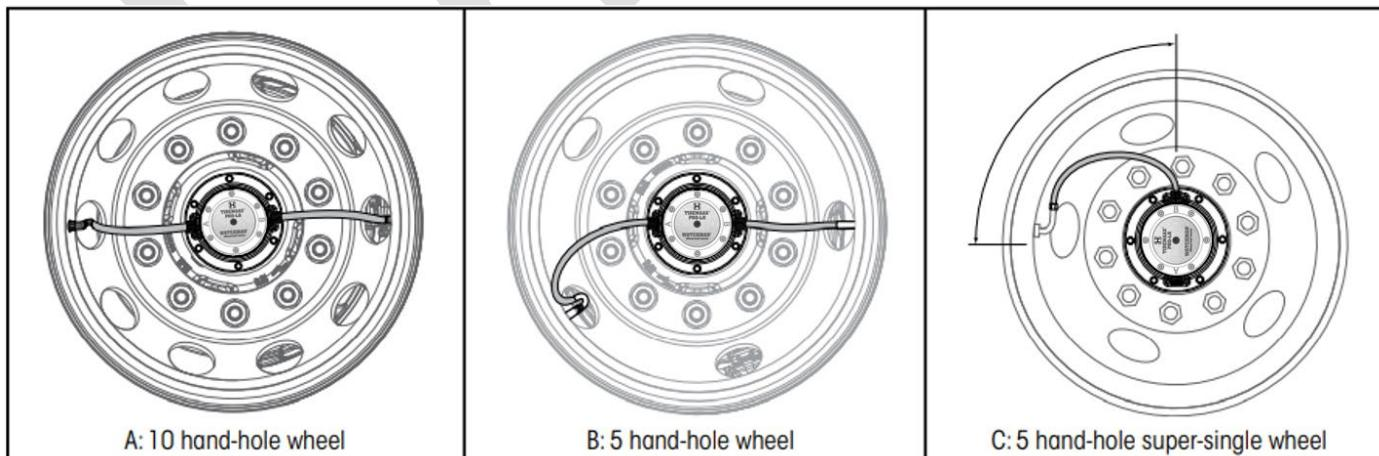

Figure 5: Properly clocking hubcap to wheels
6. Orient hubcap for proper tire hose routing. Aligning the tire hose port so they are BETWEEN two wheel mounting studs will generally provide the best tire hose routing – Figure 5.
1. Using two lug nuts, mount wheel on hub with the rotation clocked for best tire hose placement (Figure 5 on page 8).